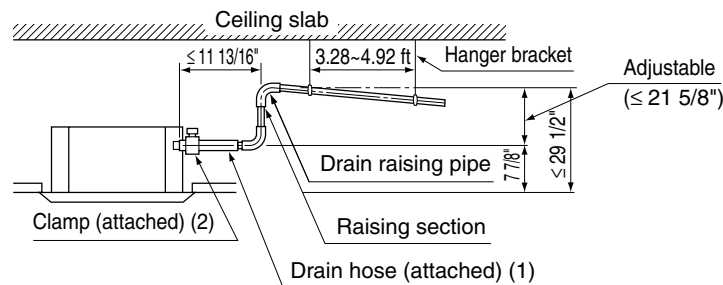
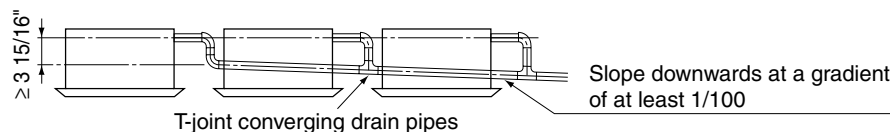

Fig. 22
Fig. 23
- Be sure to use the drain pipe (1) and metal clamp (2). Also, insert the drain pipe completely into the drain socket, and securely attach the metal clamp bracket inside the gray tape area on the inserted tip of the drain pipe. **(Refer to Fig. 22)** Screw the screws on the metal clamp bracket until there is 5/32 in. left. (Pay attention to the direction of the attachment to prevent the metal clamp bracket from coming into contact with the suction grille.) **(Refer to Fig. 23)**
- Insulate the metal clamp bracket and drain pipe from the bottom using the large sealing pad (8). (Refer to Fig. 23)
- To ensure no excessive pressure is applied to the drain pipe (1), do not bend or twist when installing. (This may cause leakage.)